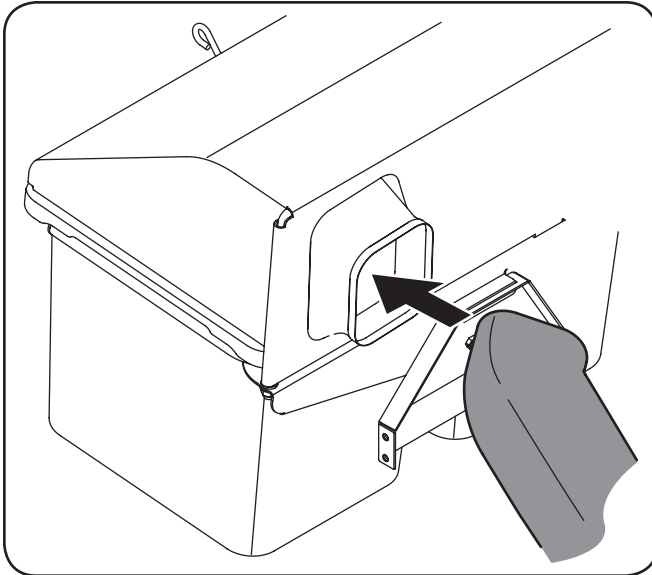

Figure 4-5
7. Insert the chute tube through the grass-catcher hood, in the opening provided. It is easiest to feed the end of the tube into the opening with the chute tube flipped upside down, then rotating right-side once inserted into the hood. See Fig. 4-5.